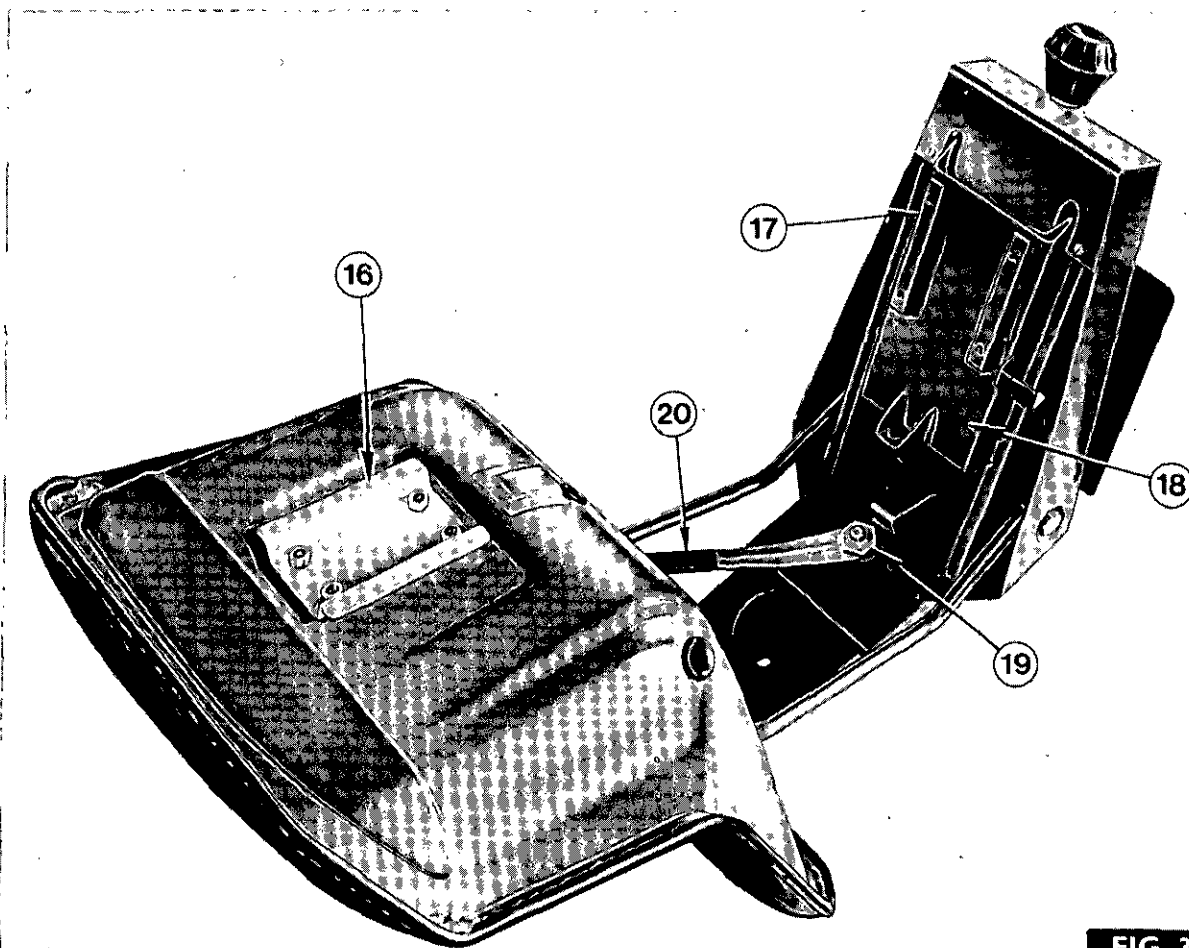

FIG. 3
The seat pan is mounted on nylon bearings to the front of a tubular swing arm (1, Figure 2), the swing arm in turn, is mounted on nylon bushes and bolted to the seat pillar (2). A bracket (16, Figure 3) bolted to the seat backrest, locates on runners (17) with
A control lever (20, Figure 3) situated on the bottom of the seat frame allows the seat to be locked in any position on the seat riser. With the lever in the central position, the seat can be moved on its runners, along the riser, giving fore, aft and height adjustment. The seat is locked in the selected position by moving the lever to the right.
7. Remove the snap rings and washers retaining the spring loops to the spring adjuster (6) and remove the adjuster.
8. Remove the snap rings retaining the pin (8) to the bottom of the channel section plate and withdraw the pin. The nylon spacers (9) and piston end of shock absorber (10) can now be removed.
10. Remove the bolts (15) securing the tubular swing arm and nylon bushes to the seat pillar.
11. Remove the bolt (19, Figure 3) securing the seat locking lever (20) to the seat and lift off the lever. The large bolt beneath the locking lever can now be removed to release the locking plate, situated beneath the top face of the seat riser.
9. Fig. 3. Lift the hood assembly clear of the tractor.